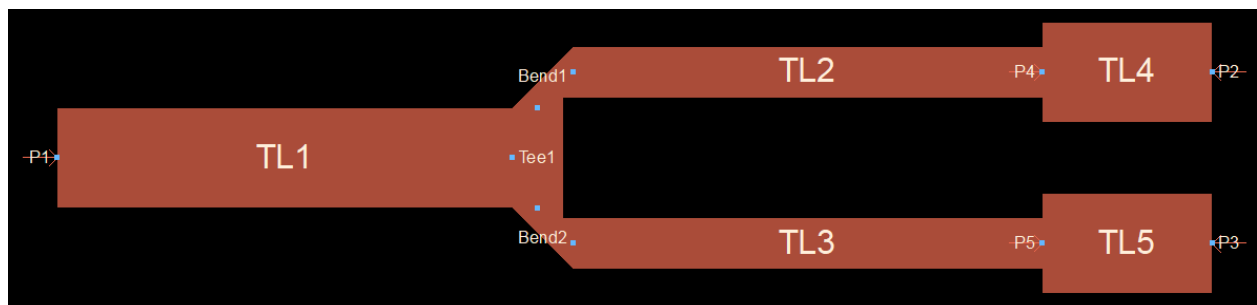

Figure 16. Layout for power divider shown with Ports 4 and 5 added
3. Since the isolation resistor will be added between the outputs, add a port between each of the 50  $\Omega$  and 70.7  $\Omega$  lines. The layout is shown in Figure 16.